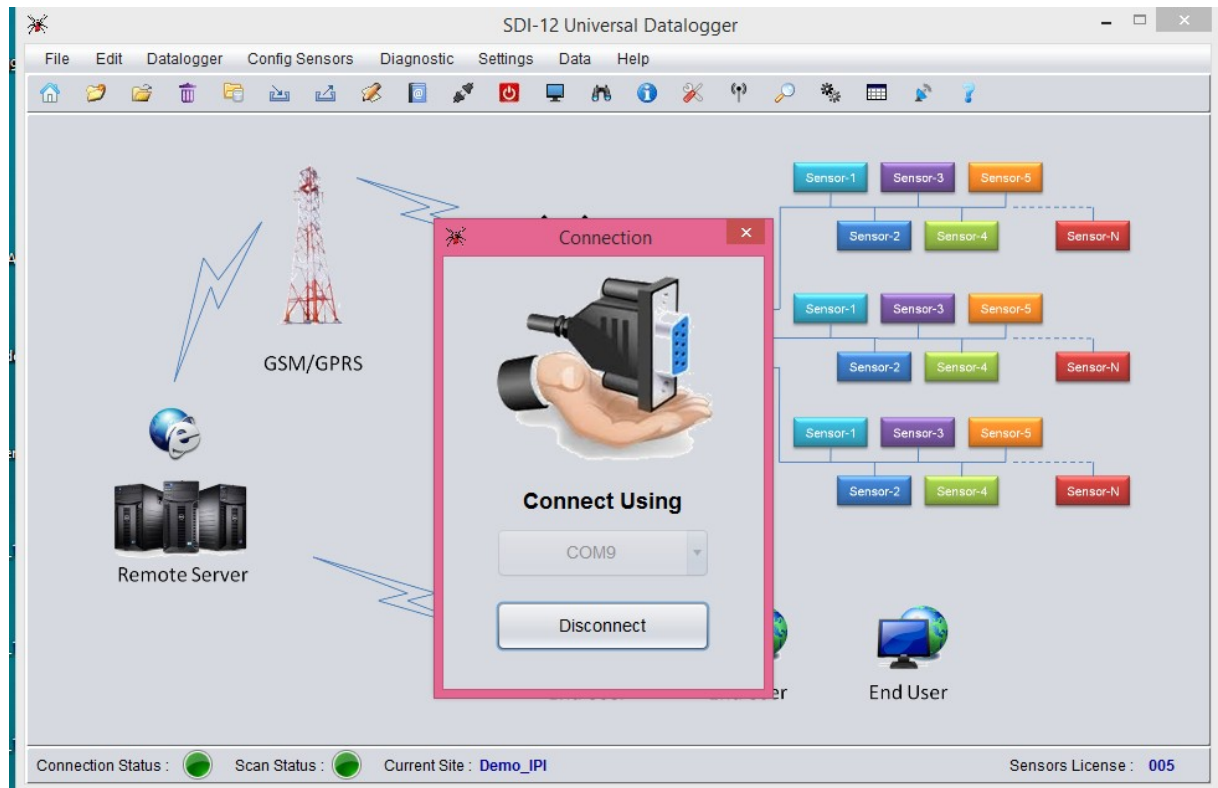

Figure 46 Disconnecting datalogger rom PC
- Click “Disconnect” button to disconnect the Datalogger from Computer/ Laptop (figure 46).